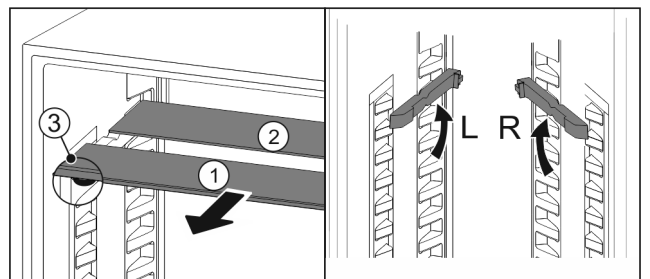

Fig. 129
- ▶ Pull the glass panels out Fig. 129 (1) from the front, one at a time.
- ▷ The glass panel Fig. 129 (1) and trim strip are at the front.
- ▷ The stops Fig. 129 (3) point down.